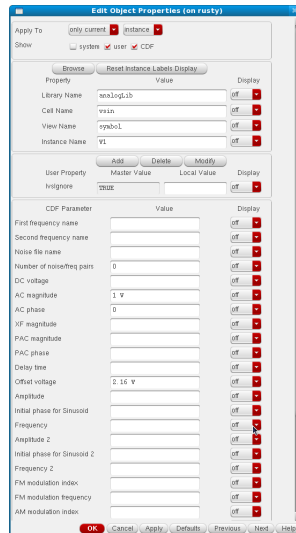

Figure 20: AC input source
2. Change the Cell name from “vpulse” to vsin then click on apply. Now modify AC magnitude to 1, AC phase to 0, and DC offset to the crossing value we computed using the calculator in section 2.3. The proper window will look like figure 20.